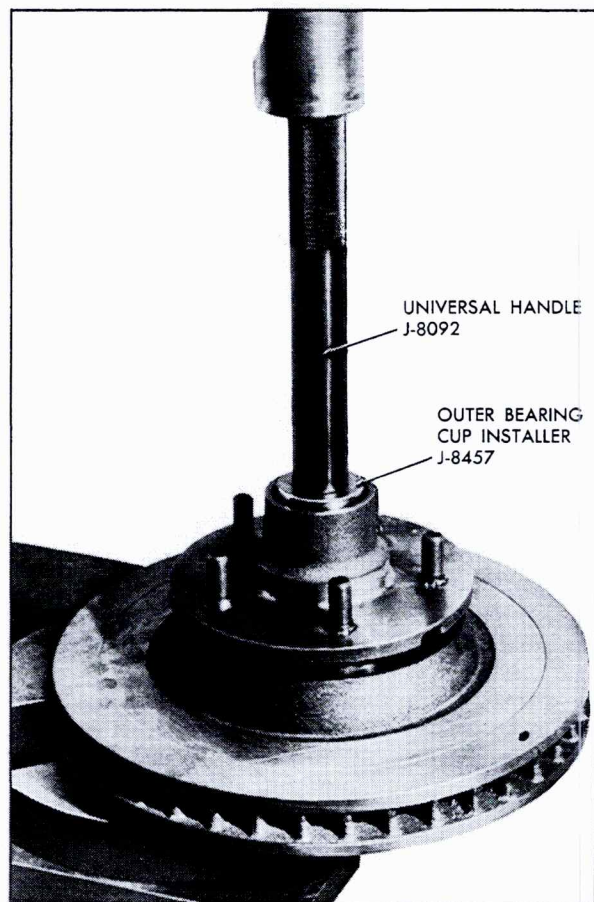

Fig. 3-28 Installing Outer Bearing Cup
3. Install outer bearing cup, using Front Hub Outer Bearing Cup Installer, J-8457, and Handle, J-8092. Use arbor press to install bearing cup in hub, Fig. 3-28.